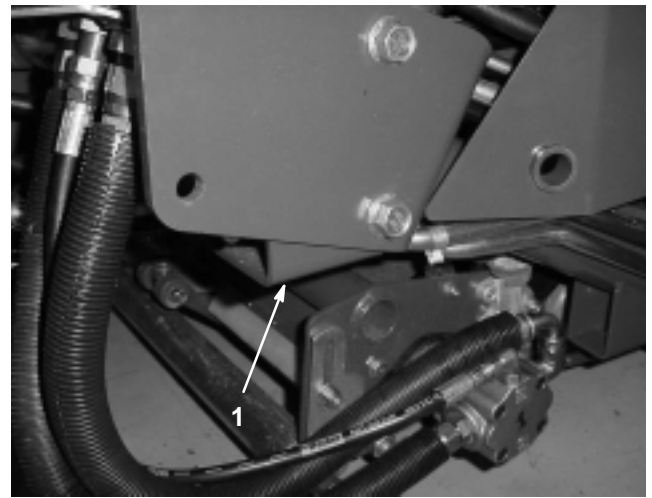

Figure 42
- Right side—under the ROPS support bracket (Fig. 42)